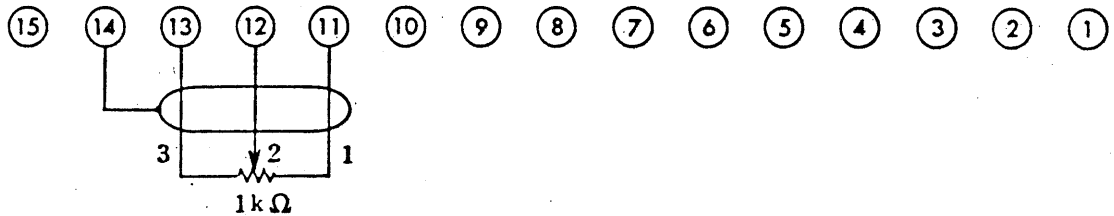

Figure 2-11-3
3. Connect a 1 k $\Omega$  variable resistor to the terminal board on the rear panel, as shown in Fig. 2-11-3. The variable resistor should be a 10-turn potentiometer.